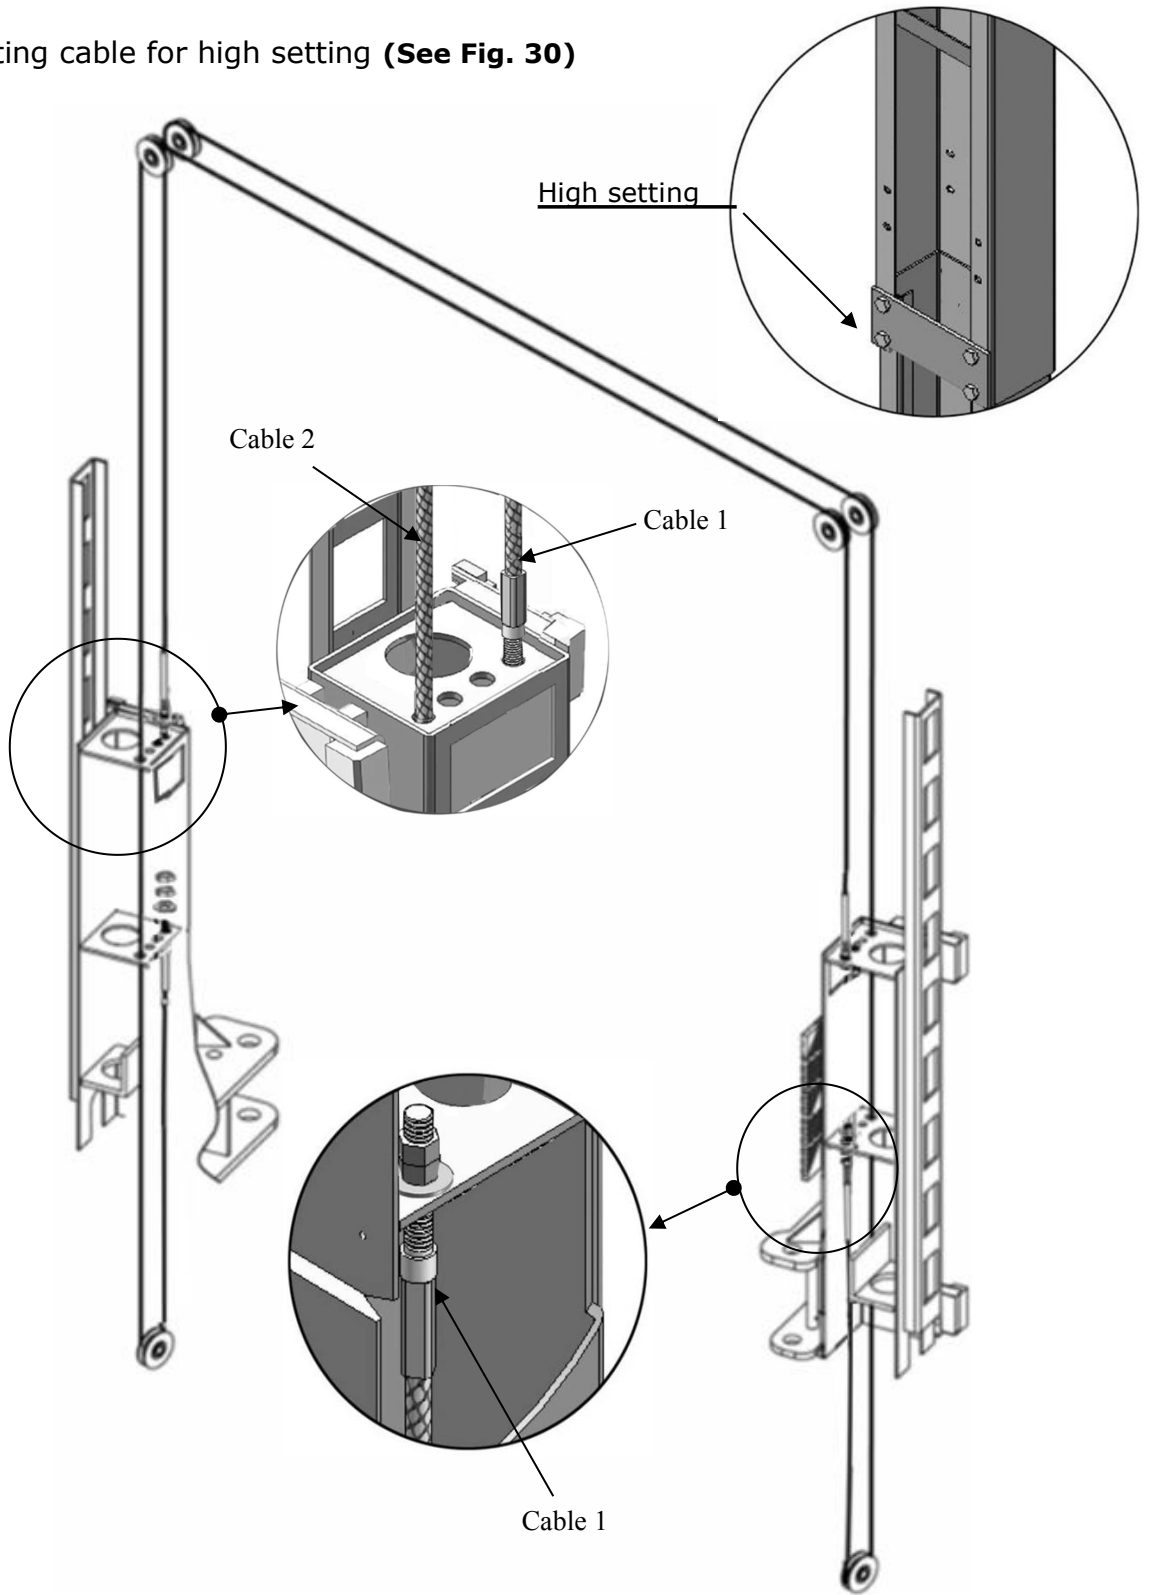

Fig. 30
1.2 Connecting cable for high setting (See Fig. 30)